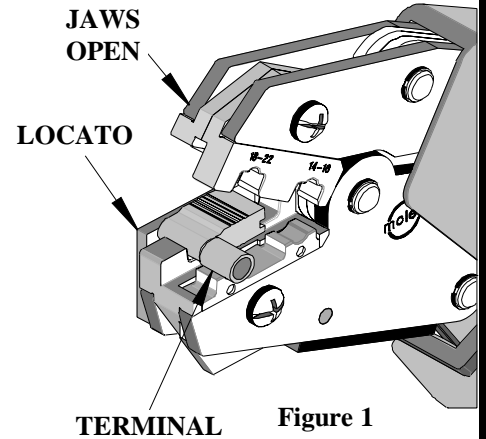
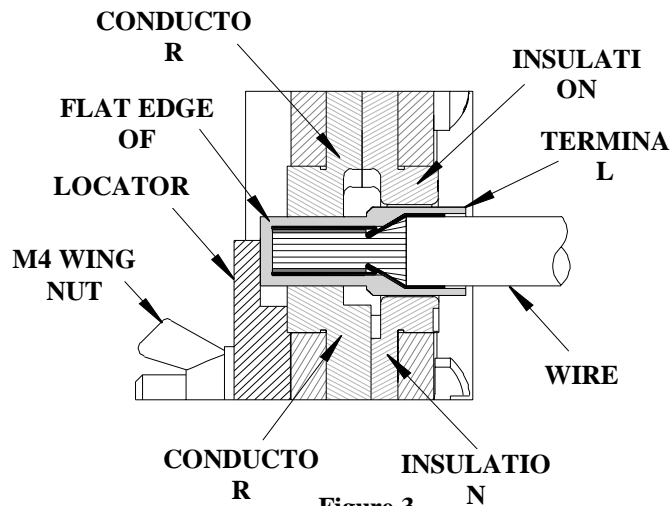

Figure 1
Figure 3
1. Insert the terminal with the barrel into the color-coded nest and the square edge of the flag facing out for 14-16 AWG and in for 18-22 AWG. Make sure the back of the flag terminal is against the locator, (See Figure 1). If terminal is not flush against the locator loosen the M4 wing nut and adjust the locator up or down so that the flat edge of the terminal is flush against the wall of the locator. Tighten the M4 wing nut, (See Figure 3).